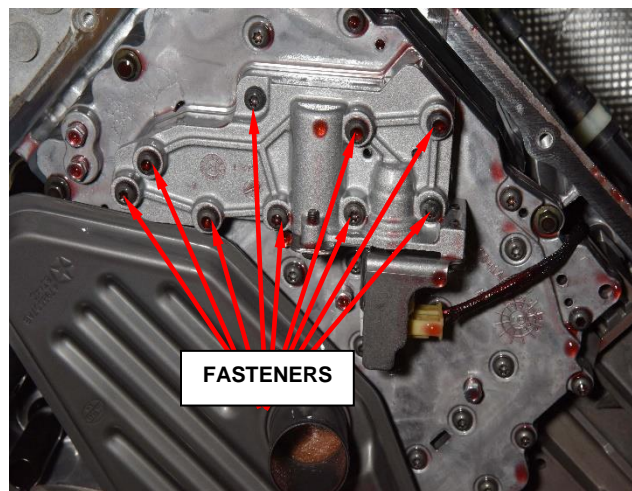

Figure 3 – Lower Valve Body
9. Remove the 9 Lower Valve Body fasteners, keep the valve body level, slowly remove the valve body taking care to catch check ball that may fall out immediately, set the lower valve body and check ball on a clean surface for reuse (Figure 3).